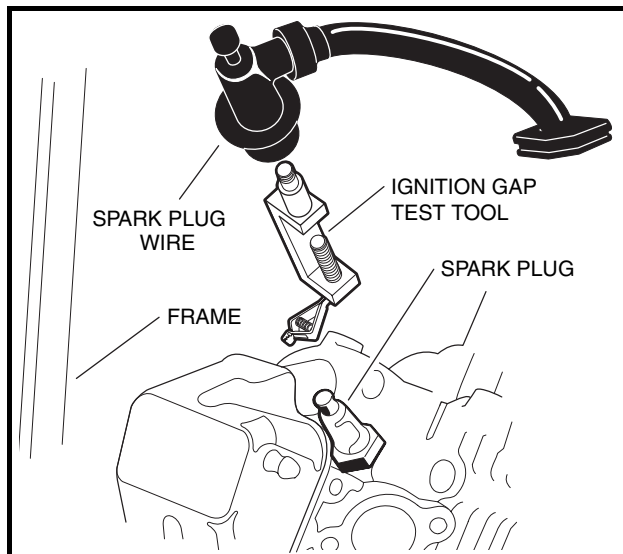

Figure 11-39 Ignition Spark Test
2. Remove the plug wire from the spark plug and use an ignition spark gap test tool (Thexton 404[®] or equivalent) to check for correct spark (**Figure 11-39, Page 11-33**).